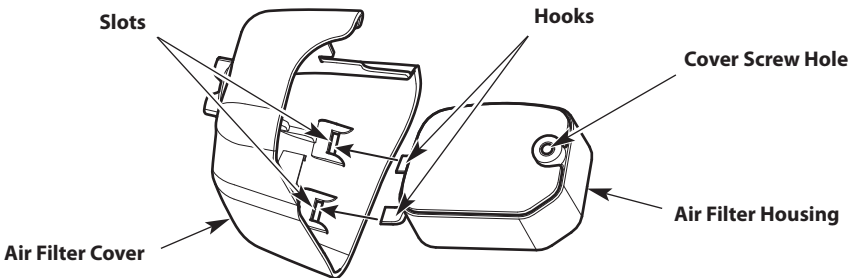

Fig. 27
7. Insert the hooks on the air filter housing into the slots on the air filter cover (Fig. 27).